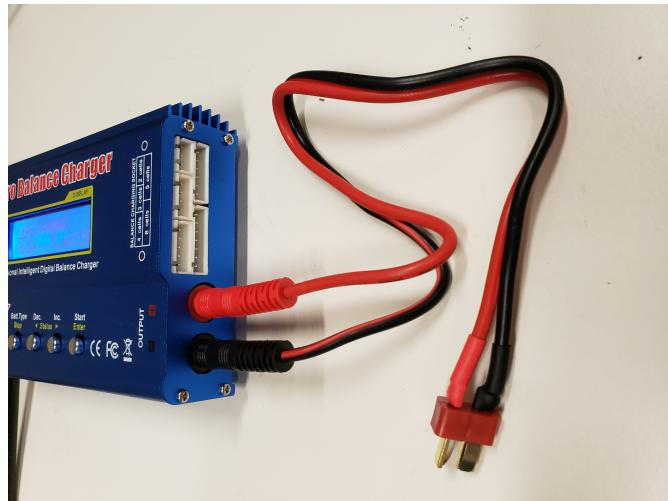

Figure 8
3. Connect the Deans cable to the red and black leads, as shown in Fig. 8.